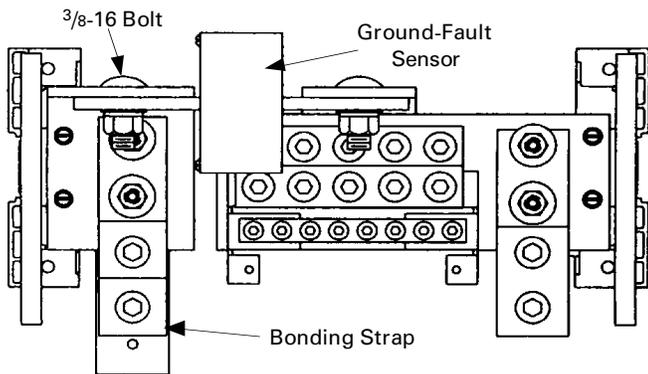

Figure 5. 400-600 A neutral with ground-fault sensor.
- 400–600 A: loosen the 3/8-16 nuts, as shown in Figure 5, and remove the sensor. After testing, reassemble and tighten the nuts to 14 ft-lb.